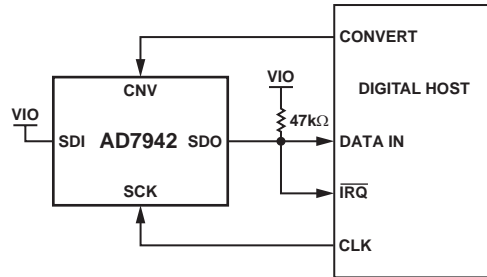
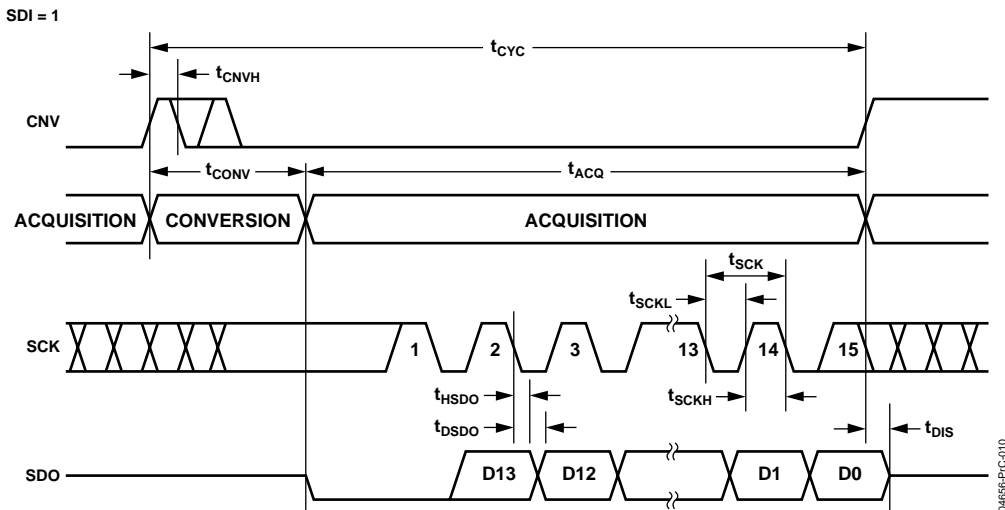
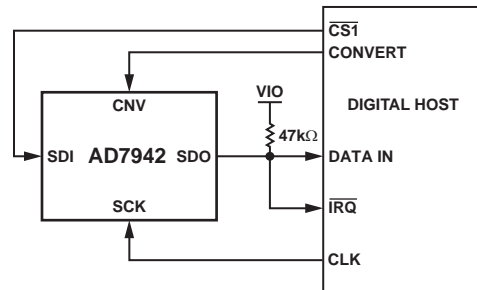
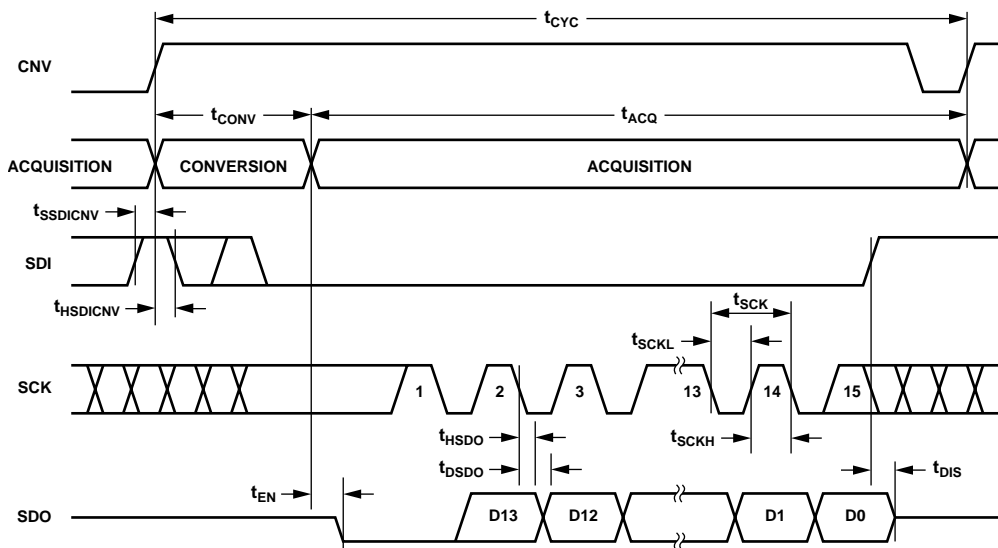

Figure 31.  $\overline{CS}$  Mode 3-Wire with BUSY Indicator Connection Diagram (SDI High)
Figure 32.  $\overline{CS}$  Mode 3-Wire with BUSY Indicator Serial Interface Timing (SDI High)
Figure 35.  $\overline{CS}$  Mode 4-Wire with BUSY Indicator Connection Diagram
Figure 36.  $\overline{CS}$  Mode 4-Wire with BUSY Indicator Serial Interface Timing
- In the  $\overline{\text{CS}}$  mode, if CNV or SDI is low when the ADC conversion ends (Figure 32 and Figure 36).
The connection diagram is shown in Figure 31 and the corresponding timing is given in Figure 32.
The connection diagram is shown in Figure 35 and the corresponding timing is given in Figure 36.